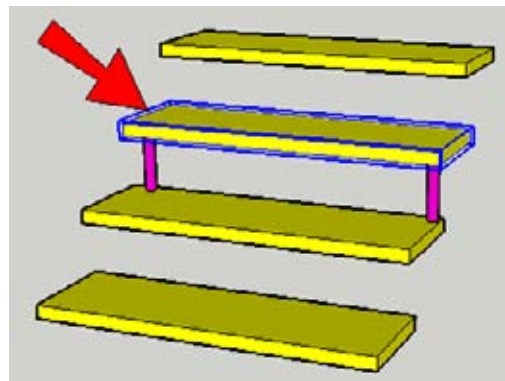

Figure 7-98
- The next step is to nest the support components into the tread component above them. First you must be able to identify in the Outliner which tread is above the supports. Select the tread above the supports (Figure 7-98).